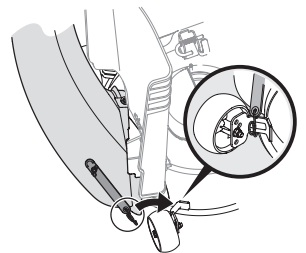
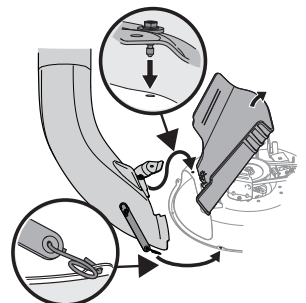

Figure 19
Figure 20
- With the tractor's discharge chute raised up and held open, install the chute elbow over the chute opening by placing the deck mounting pin in the hole provided, as shown in the upper inset of Figure 20, then secure the elbow to the deck by hooking the retainer strap torsion spring hook over the deck wheel mounting bracket as shown in Figure 19.
- On decks without deck wheels, hook the retainer straps into the hole provided in the flange on the front-side of cutting deck. See Figure 20.